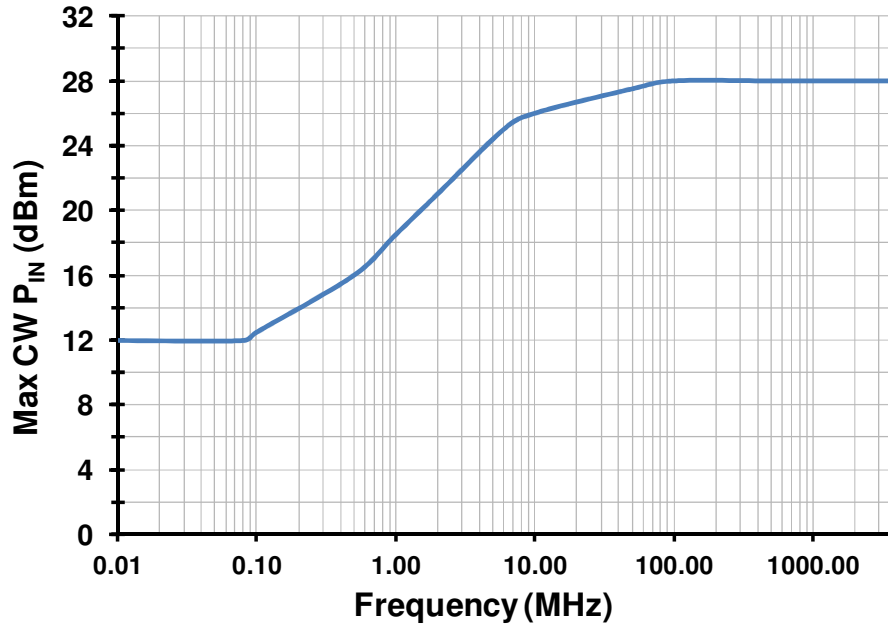

Figure 1 - Maximum Continuous Operating RF input power versus Input Frequency
- Note 3: The input 0.1dB compression point is used as a linearity figure of merit. The recommended maximum input power is specified as the lesser of the two values from Figure 1 and Figure 2 above.
Note 3: The input 0.1dB compression point is used as a linearity figure of merit. The recommended maximum input power is specified as the lesser of the two values from Figure 1 and Figure 2 above.